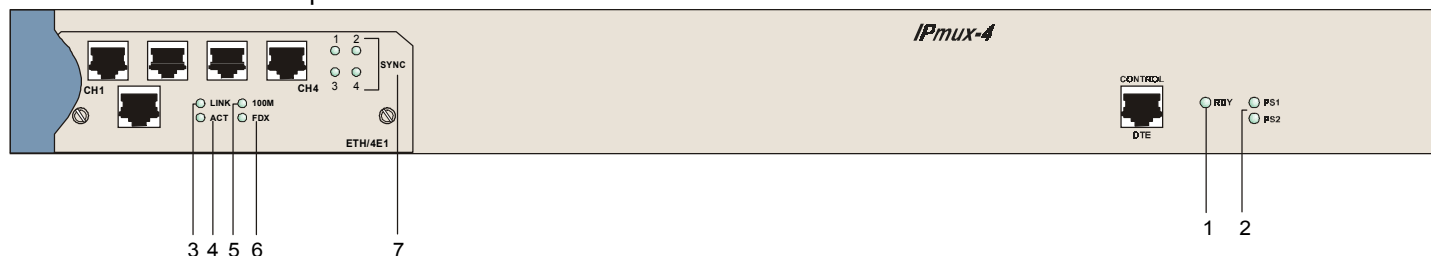
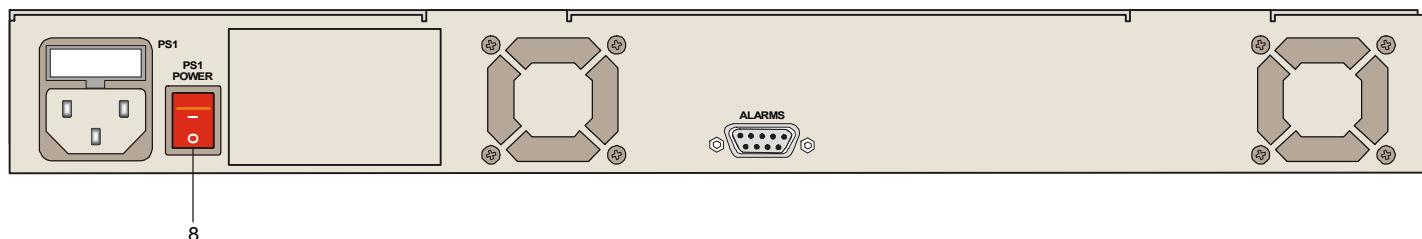

Figure 3-1. IPmux-4 Front Panel LEDs
Figure 3-2. IPmux-4 Rear Panel Switch
Interface modules installed in IPmux-4 have their own LED indicators (see *Figure 3-1* and *Figure 3-2*). The unit's LEDs are located on the right side of the front panel.
IPmux-4 power switches are located on the back panel, as shown in *Figure 3-2*.
After power-up, check the unit LED indicators, located on the right side of the front panel, and the module indicators for proper operation (see *Figure 3-1*, *Figure 3-2*, and *Table 3-1*).
5. When the test is over, a message appears "Self Test Ended." If the self-test is successful, the RDY LED (*Figure 3-1*) on the right side of the front panel lights. If problems are encountered, refer to *Chapter 4* for instructions.
After installation, there are no special operating procedures for IPmux-4. Once it is powered up, the unit operates automatically. Proper operation is indicated by the front-panel LED indicators (*Figure 3-1* and *Figure 3-2*). The unit operational status can be monitored constantly.